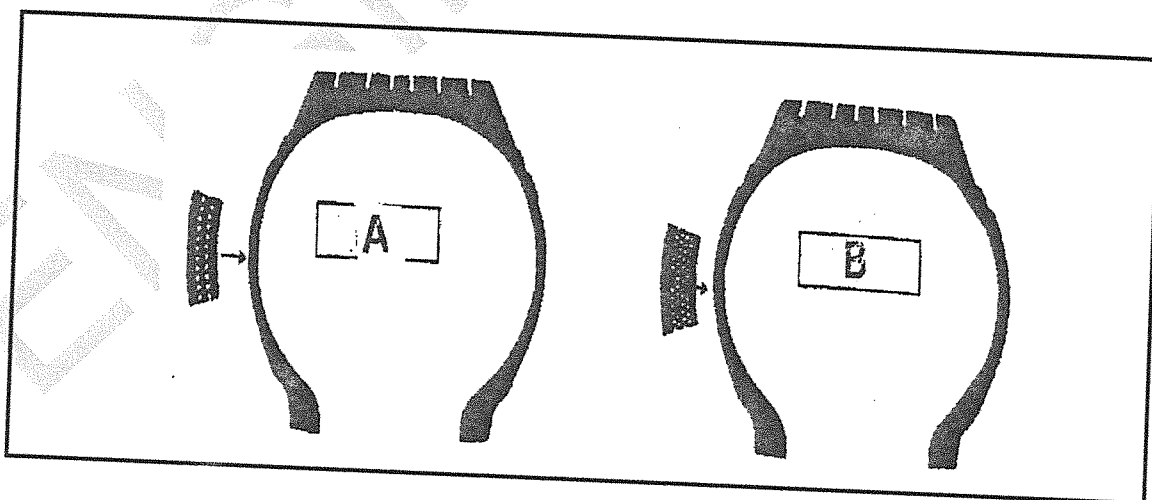

FIGURE 5
4.5 FIGURE 5 below shows TWO tyre types. Name each type of tyre. Write only the answer next to (A–B) in the ANSWER BOOK.